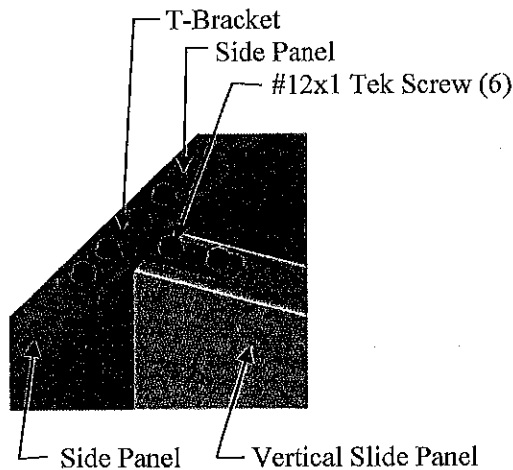

Figure 15 (On the Top)
If your shipment came with X brackets and T brackets as shown in (**Figure 15 & 16**). Please follow the directions below.
1. For Side Panels and Verticals Slide Panels at the end of each row, attach a T-Bracket on the top of both joining Side Panels and Vertical Slide Panel using 1" self-drilling Tek Screws as shown in (Figure 15). Follow the same instructions to attach Bracket on the other end of the kennels.